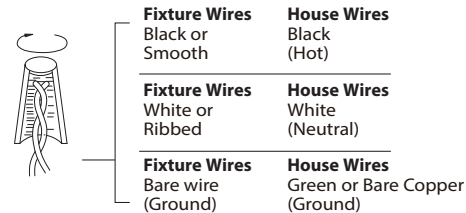

Fig. 3 Switch
3. Remove the mounting screw (B) from the mounting plate.
4. The lamp can switch between three color temperatures (3000K-3500K-4000K), which can be adjusted to your preference with the switch in the canopy (Fig.3).
5. Drill holes in the wall aligned with the key holes located in the mounting back plate, insert the plastic anchor (C). Secure the mounting back plate to the junction box using standard junction box screws that comes with the junction box, fasten it to the wall using wood screw (D) .